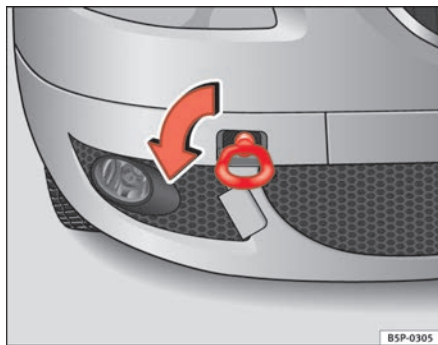
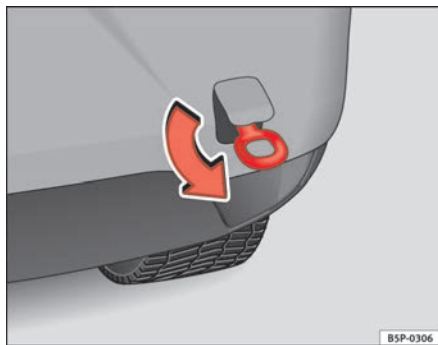

**Fig. 205 The front right section of the vehicle:
Fig. 206 Fitting the towing eye to the rear of the vehicle
- Screw the towing eye as shown by arrow *anti-clockwise* to the limit position in the front ⇒ fig. 205 or rear ⇒ fig. 206 threaded hole. ■